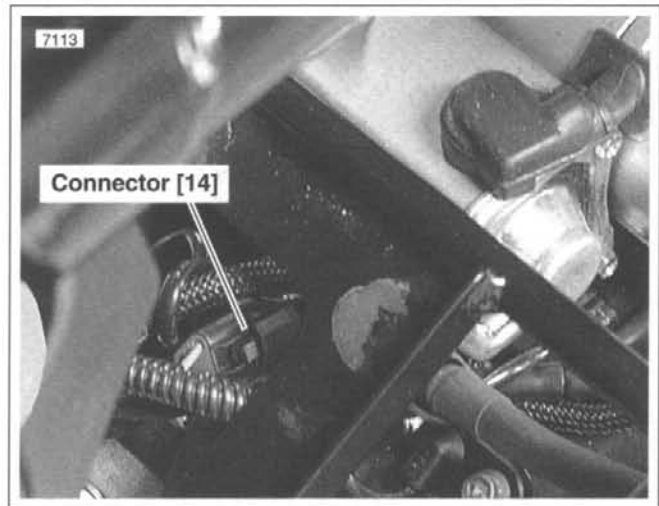

Figure 4-70. Cam Position Sensor Connector [14]
4. See Figure 4-70. Disconnect cam position sensor wiring at connector [14] located behind the starter motor.